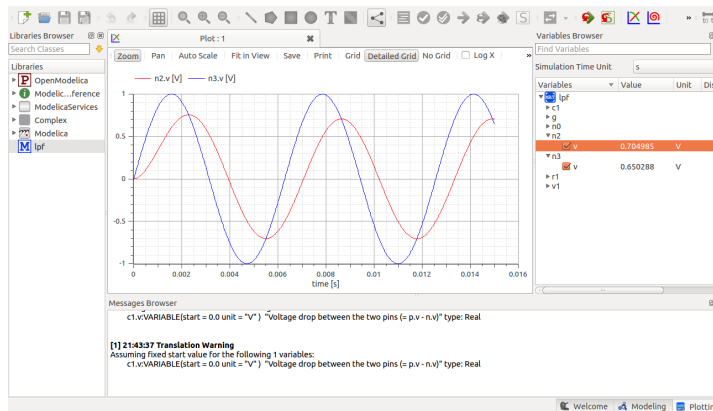

Figure 11.7: OpenModelica: Simulation
7. A plotting window opens. Click on the node at the right to display the waveform. The window is shown in Fig. 11.7.